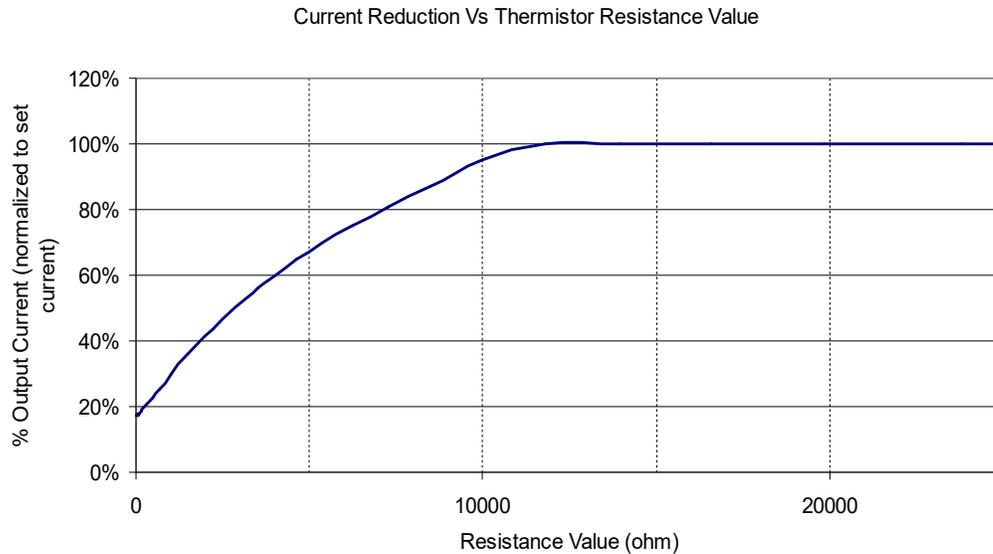
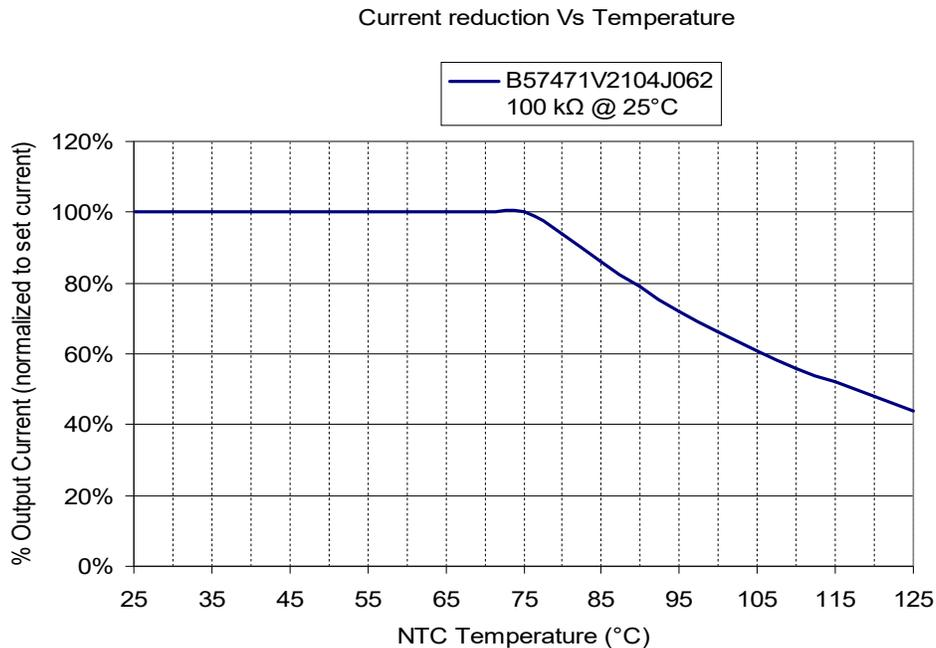

Figure 4: Output Current (%) along Thermistor (NTC) Resistance Value
Figure 5: Output Current (%) along NTC Temperature
When the current is reduced due to LED Board Over Temperature condition, many factors, predominately the thermal impedance of the LED heatsink, play a role in determining the ultimate thermal equalization. According to Figure 4, when the Over Temperature Condition is removed, the Output current comes back gradually to its original Value ($I_{out}=100\%I_{set}$).
Figure 4 shows that the Output Current reduction starts when the NTC resistance measured by Ozone is around 10kΩ. This is the key parameter to take in consideration to choose the more appropriate NTC to realize the required Current Reduction behavior.
For example, if the Current Reduction has to start from around 75-80°C, a NTC with 10kΩ-12kΩ @ 80°C has to be chosen. Here below you can find some examples that use SMD NTC devices produced by Epcos; of course, Epcos Codes mentioned are only for a design reference. In fact, different Epcos codes or NTC produced by other manufacturers can be used and the diagram of the Current Reduction Vs NTC Temperature (see Figures 5 and 6) is always obtained starting from Figure 4 and considering the R(T) characteristic of the chosen thermistor.
Ozone design produces a knee in the output current regulation at approximately 75°C when it operates with the Epcos Code B57471V2104J062 (100kΩ @ 25°C) as shown in Figure 5.
The graphic represented in Figure 5 refers to the current reduction caused only by the LED Over Temperature protection. The effect of the current reduction due to dimming is excluded (Dimming=100%).
The graph depicted in Figure 4 can be used to determine the required resistance characteristics of alternate NTC resistors; the general rule that comes from it is that if a knee at lower temperature is required, then the resistance value @25°C has to be reduced, whereas if a knee with a higher temperature is admitted then the R_{25} value has to be increased.
Starting from the NTC used in the Figure 5 (B57471V2104J062 (100kΩ @ 25°C)), if a lower maximum PCB temperature is required, a NTC with lower R_{25} has to be used.
The method explained above that allows to obtain the Current Reduction Vs NTC Temperature diagram (see Figures 5 and 6) is valid regardless of the NTC used.